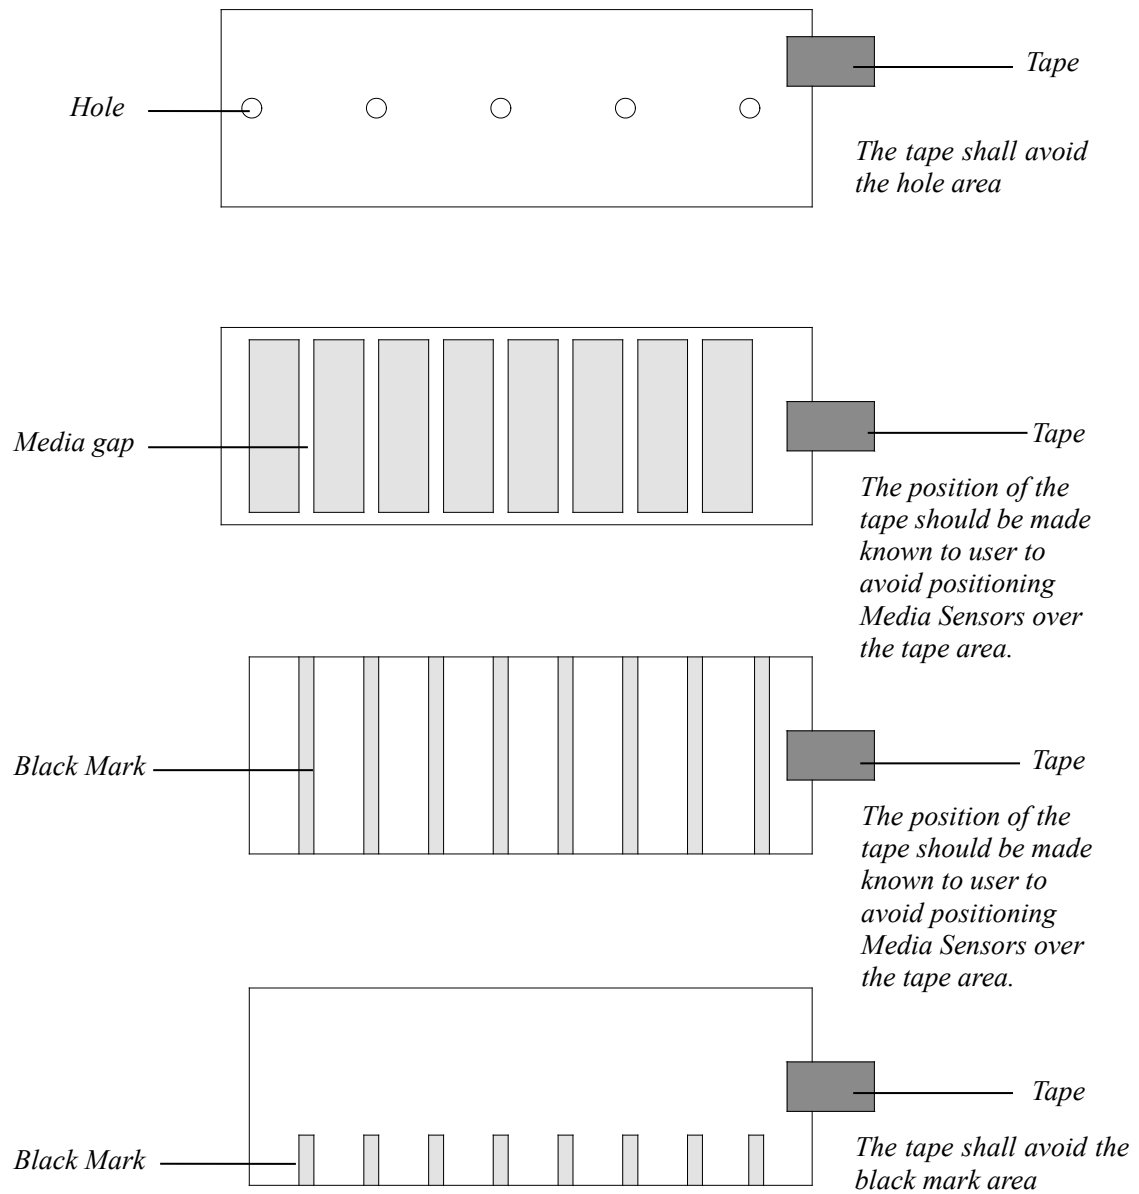

Figure 3-55 End-fixing Tape Position
- When roll media is produced, the media end would be fixed on the media core with duct tape or scotch tape. If your printer cannot detect the Media Out signal well, please refer to Figure 3-55 to check the position of the tape.